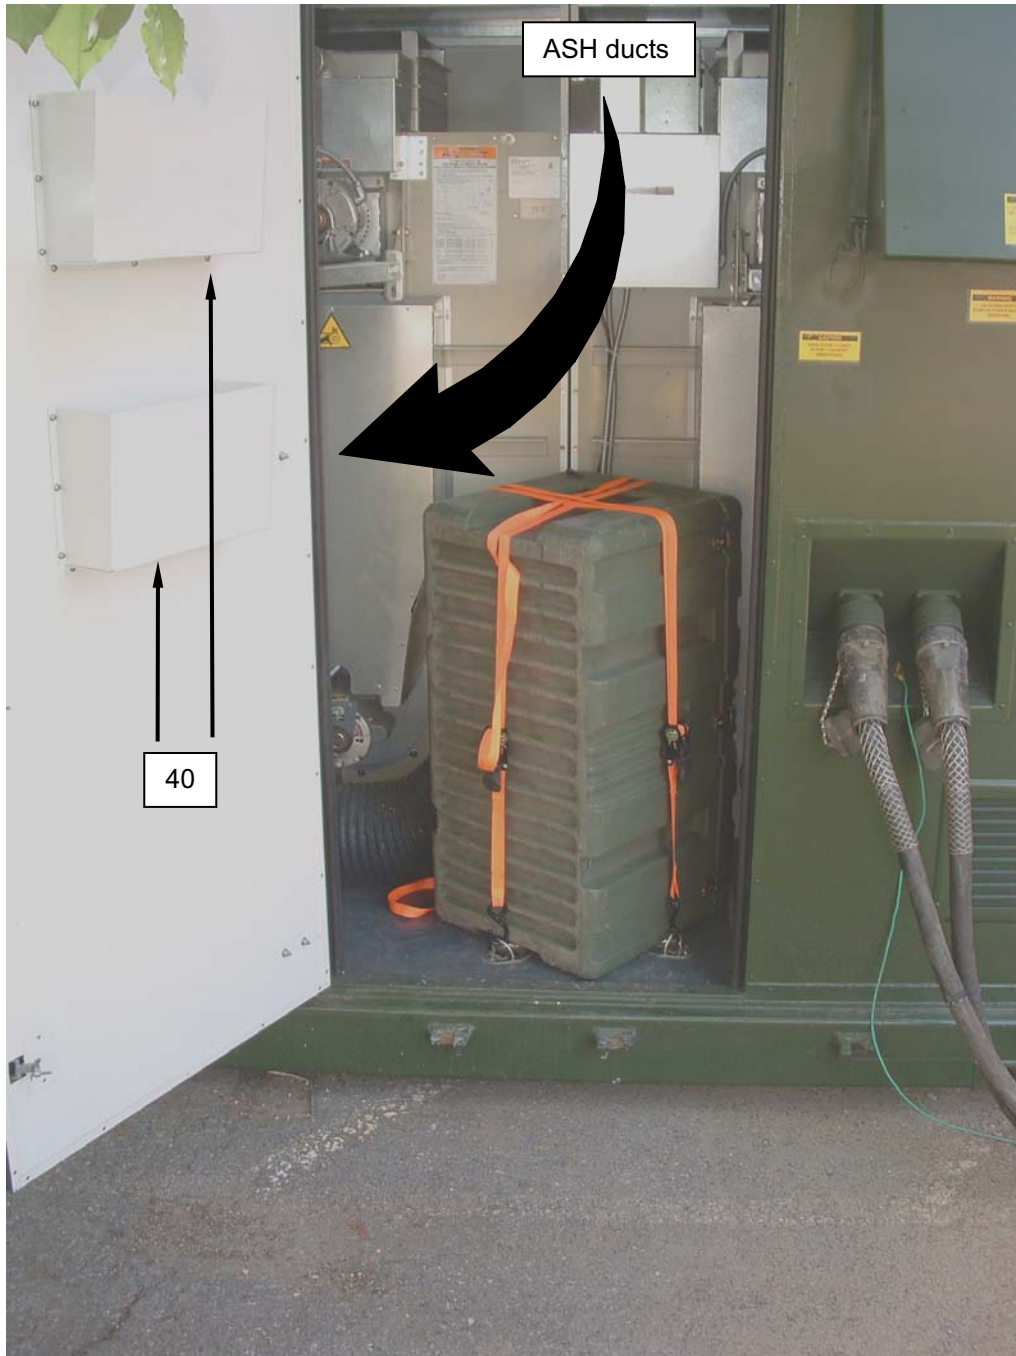

Figure 34. Securing the Footlocker.
57. Place the keys and TM's in the bins (**Figure 34, Item 40**) fitted to the personnel door.